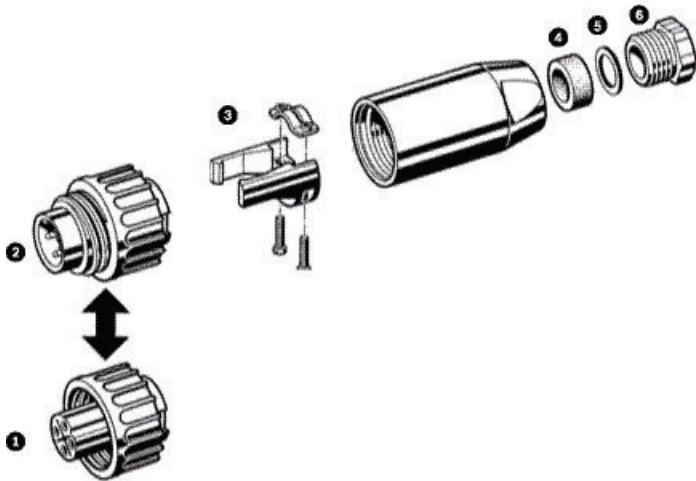

Figure 6.1 Mating connector 4-pin assembly
- Insert the power cord through the back shell assembly and strain relief. See *Figure 6.1*).
- Connect the power input cable to the screw terminals on the provided mating connector. See *Figure 6.1* and *Table 6.1*.